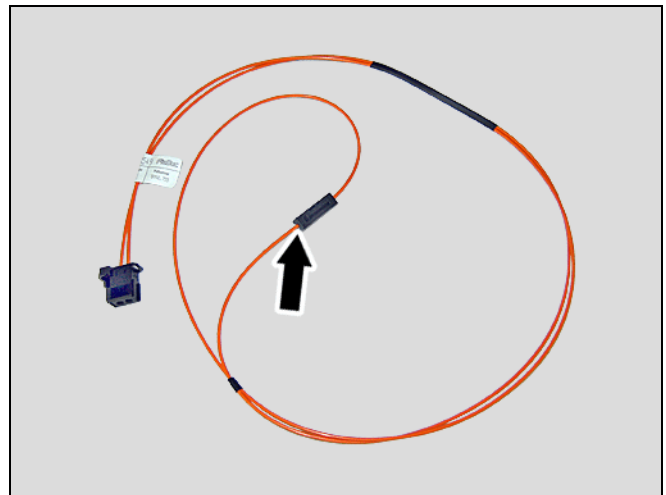
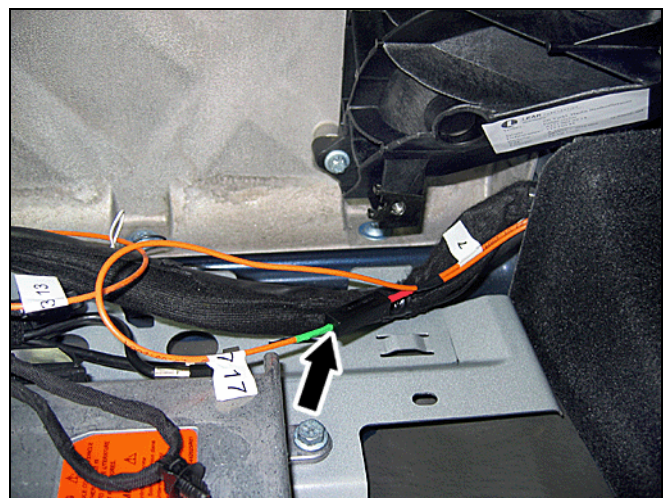
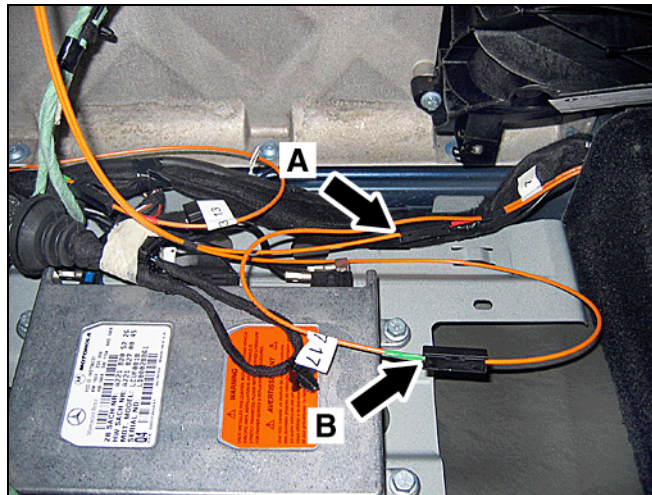

Figure 4
Figure 5
Figure 6
1. Find the MOST adapter cable in the kit, carefully disassemble the coupling, and remove the shorter—measured from the tape—fiber (Figure 4).
2. Find the coupling in the MOST optical fiber preinstalled at the bottom of the equipment carrier, carefully disassemble the coupling, and remove the fiber end with the green tape (Figure 5).
3. Insert the fiber end (Arrow, Figure 4) removed from the coupling of the MOST adapter cable into the coupling (A, Figure 6) of the preinstalled MOST optical fiber and then reassemble the coupling.
4. Insert the fiber end (Arrow, Figure 5) removed from the coupling of the preinstalled Most optical fiber into the coupling (B, Figure 6) of the MOST adapter cable and then reassemble the coupling.